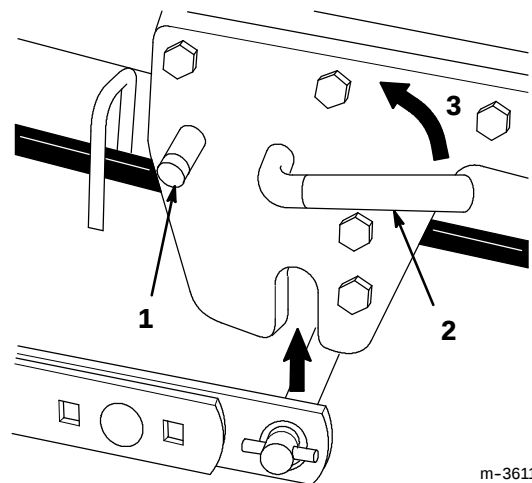

Figure 8
9. Turn the lever of the Attach-A-Matic **t** counterclockwise to lock the mower to the tractor (Fig. 8).